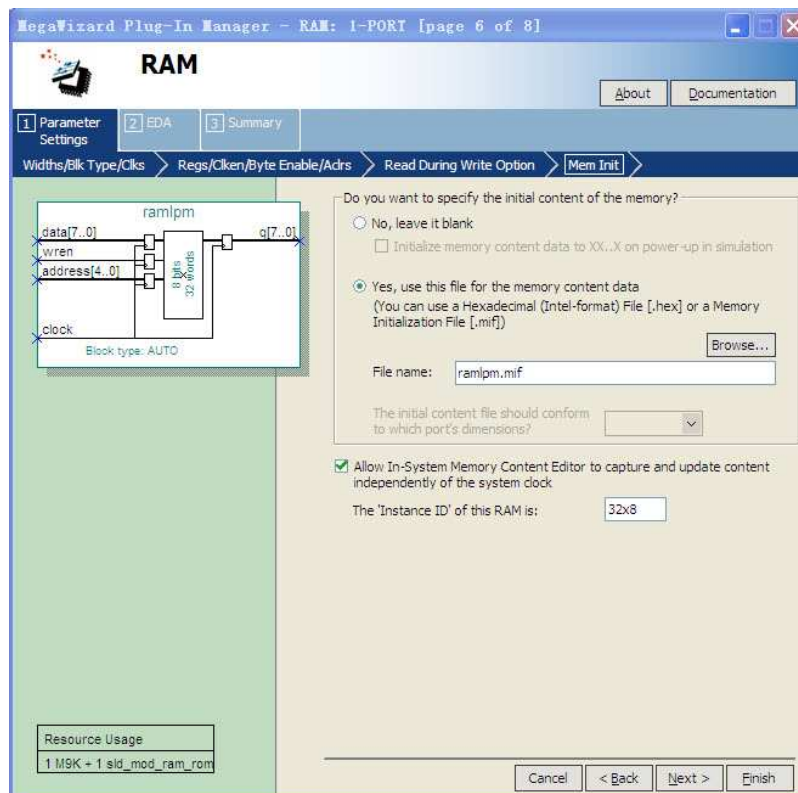
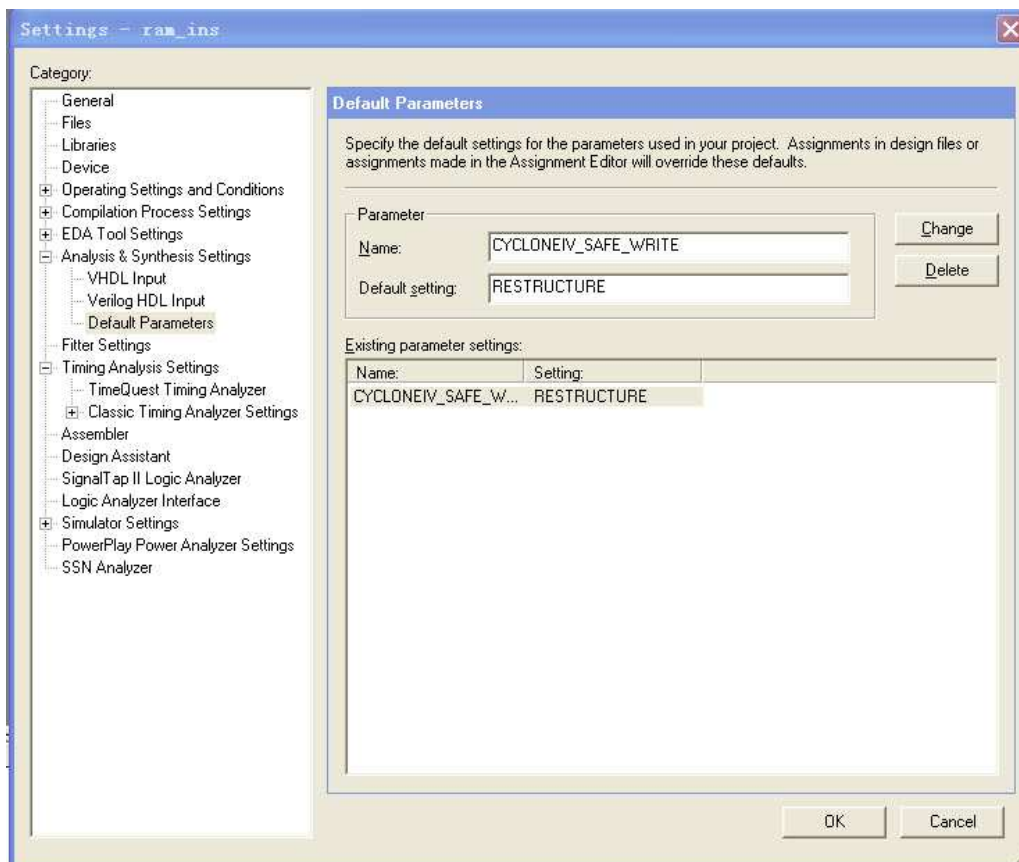

Figure 6. Configuring *RAM:1-PORT* for use with the In-System Memory Content Editor.
Figure 7. Setting the *CYCLONEIV SAFE WRITE* parameter.
1. Create a new Quartus II project for your circuit, and use the MegaWizard Plug-in Manager to again create a single-port version of the RAM:1-PORT LPM. For Pages 1 to 6 of the Wizard use the same settings as in Part I. On Page 6, shown in Figure 6, specify the `ramlpm.mif` file as you did in Part V, but also make the setting Allow In-System Memory Content Editor to capture and update content independently of the system clock. This option allows you to use a feature of the Quartus II CAD system called the In-System Memory Content Editor to view and manipulate the contents of the created RAM module. When using this tool you can optionally specify a four-character 'Instance ID' that serves as a name for the memory; in Figure 7 we gave the RAM module the name `32x8`. Complete the final steps in the Wizard.
3. Before you can use the In-System Memory Content Editor tool, one additional setting has to be made. In the Quartus II software select Assignments > Settings to open the window in Figure 7, and then open the item called Default Parameters under Analysis and Synthesis Settings. As shown in the figure, type the parameter name CYCLONEIV SAFE WRITE and assign the value RESTRUCTURE. This parameter allows the Quartus II synthesis tools to modify the single-port RAM as needed to allow reading and writing of the memory by the In-System Memory Content Editor tool. Click OK to exit from the Settings window.